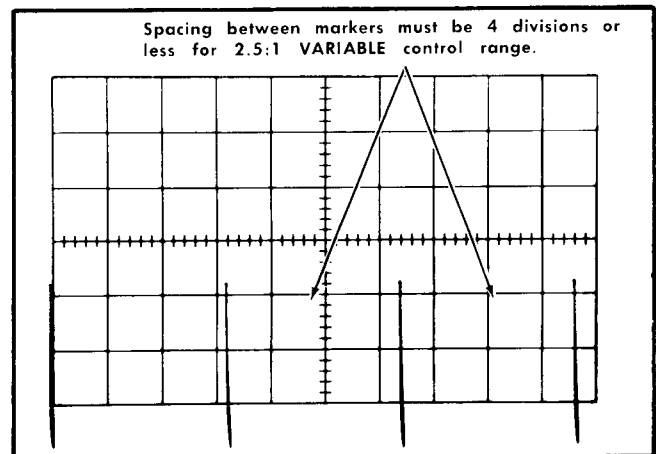

Fig. 5-15. Typical crt display when checking VARIABLE TIME/DIV control range.
- Check—4 divisions or less between markers (2.5:1 range); see Fig. 5-15. UNCAL A or B light must be on when A VARIABLE control is not in CAL position.
- Check—4 divisions or less between markers (2.5:1 range); see Fig. 5-15. UNCAL A or B light must be on when B VARIABLE control is not in CAL position.